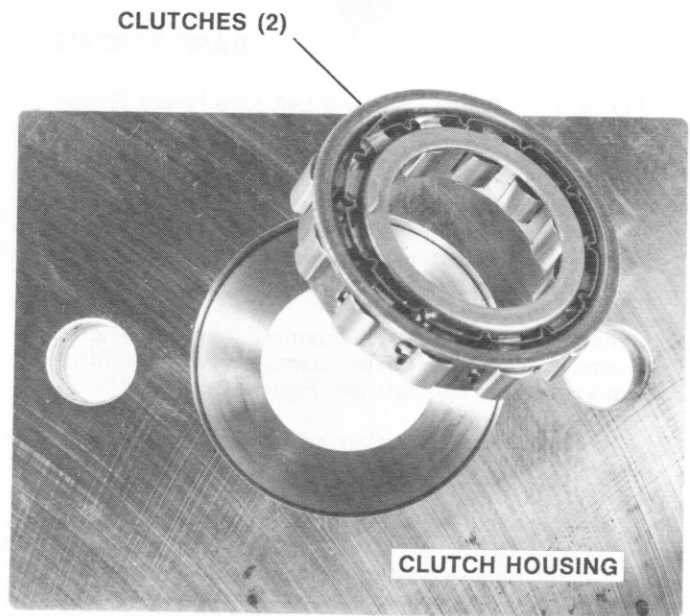

Figure 14 — Mainshaft Clutches and Clutch Housing
- P. External clutch flanges must be on the shiny milled side of the mainshaft clutch housing and must face up (see Figure 14).